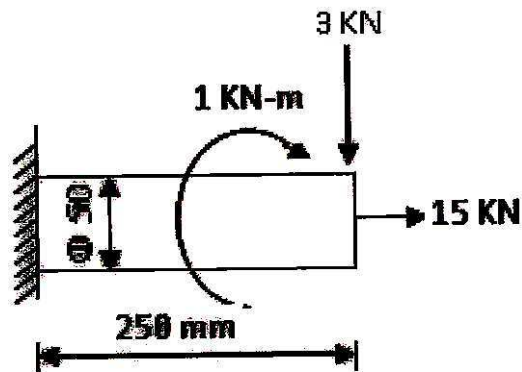

Fig. 1
- (b) A machine member 50 mm diameter and 250 mm long, supported at one end as a cantilever as shown in Fig. 1. Calculate factor of safety considering combined axial, bending and torsion load using